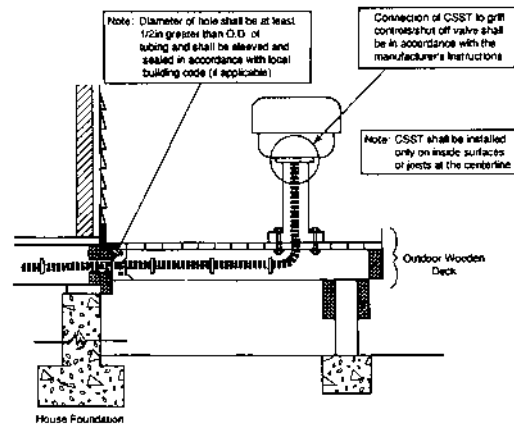

Figure: 4-38
2. Permanently mounted grills located on decks shall be connected with the **TracPipe® CounterStrike®** system as shown in Figure: 4-38—and in accordance with this guide. The outdoor portion of the piping shall be supported against the side of any of the inside deck joists. If the elevation of the deck is below the top of the foundation, any exposed piping shall be protected using water-tight non-metallic conduit.
3. Permanently mounted lights located on decks shall be connected to the piping system the same as permanently mounted grills shown in Figure: 4-38 and in accordance with the manufacturer’s instructions.